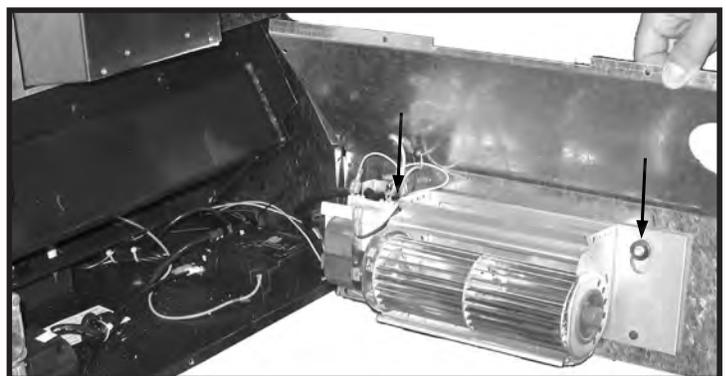

Figure 50: Installing Fan onto Back Panel.
4. Hold the back panel close to the left side of the unit and hook the two (2) slots on the fan bracket over the rubber grommets found on the inside of the back panel (see Figure 50).